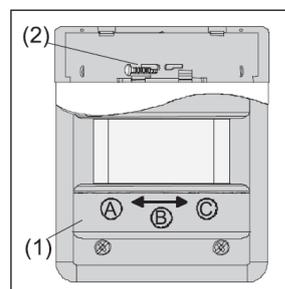

Figure 24
The automatic switch has three modes of operation which can be set with slide (1) (Fig. 24).
1. Take off slide (1).
2. Remove locking screw (4) (Fig. 24) and keep it in holder (2) on the back of the slide (Fig. 24).